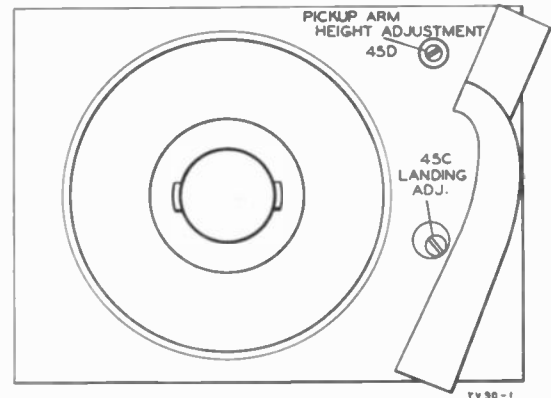

Figure 42—Height and Landing Adjustment Studs.
Set the mechanism in cycle. Turn the turntable by hand, until the pickup arm has reached its maximum height. By means of a screwdriver turn the height adjustment stud (45D) until the distance between the top of the turntable and the sapphire point is  $\frac{3}{4}$ ". Use that position of the eccentric stud which causes the pickup arm to rise during clockwise adjustment of the stud. The location of the adjusting stud is illustrated in Figure 42.
1. After the tripping adjustment has been made as described above, turn the eccentric landing adjustment stud (45C) so that the sapphire will set down on the record half-way between the outer edge and the first music groove. This position is  $2\frac{5}{8}$ " from the turntable spindle. The location of the adjustment stud is illustrated in Figure 42.